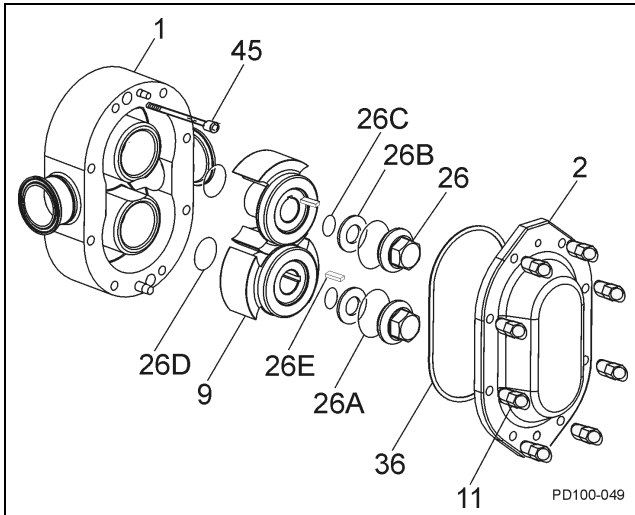

Figure 31 - Exploded View of Fluid Head
1. Remove cover nuts (Figure 31, item 11) from cover (Figure 31, item 1).
2. Using a soft hammer, tap cover (Figure 31, item 2) off body studs and dowel pins.
4. Remove and inspect cover o-ring (Figure 31, item 36).